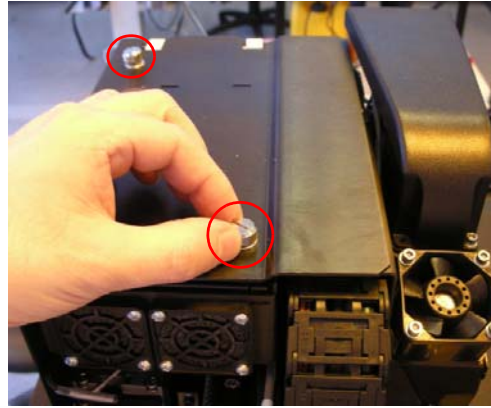

Figure 95 Upper Cover Thumb Screws
40. Place the upper cover back in its position on the print block and tighten its thumb screws (see Figure 95 on page 73).